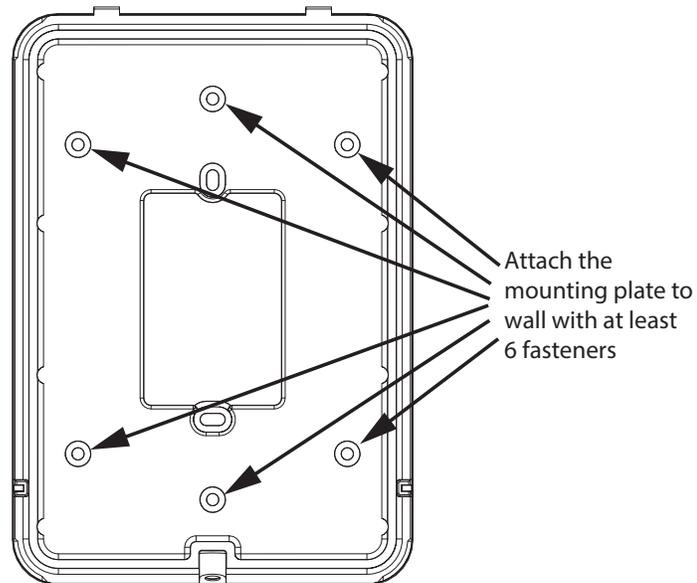
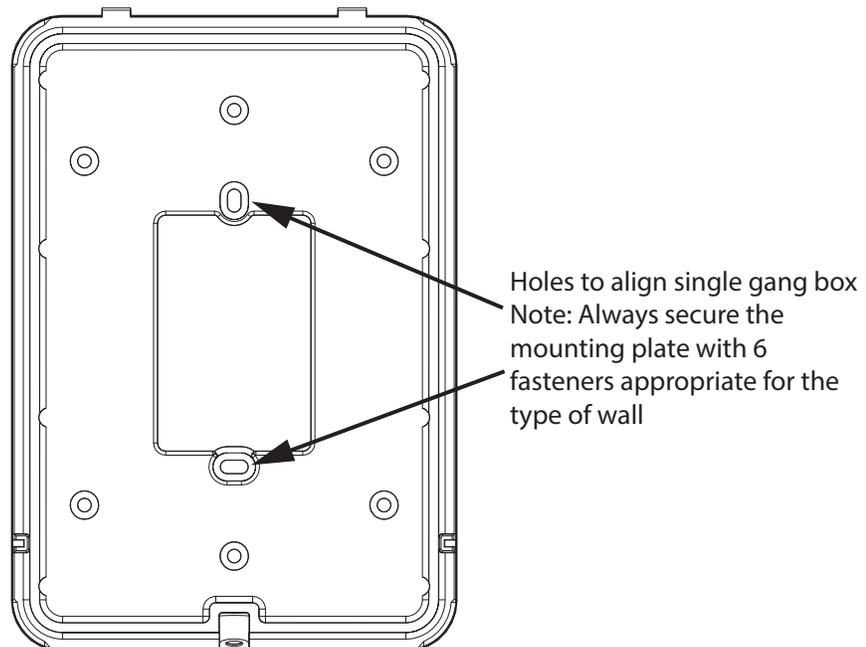

Figure 7. Front view of mounting plate showing 6 mounting holes
Figure 8. Holes for aligning mounting plate to gang box
1. Attach the mounting plate to the wall with at least 6 fasteners appropriate for the type of wall as shown in Figure 7.
If you are using an electrical gang box, use 2 screws to align the mounting plate with the gang box, as shown in Figure 8.
Warning: Do not attach the mounting plate to the wall with the 2 holes shown in Figure 8. Always secure the mounting plate to the wall with at least 6 fasteners as shown in Figure 7.